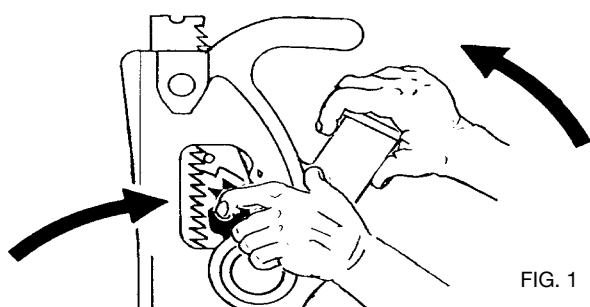

FIG. 1
STEP 1, STEP 2 AND STEP 3 (SEE FIG. 1, 2, & 3):